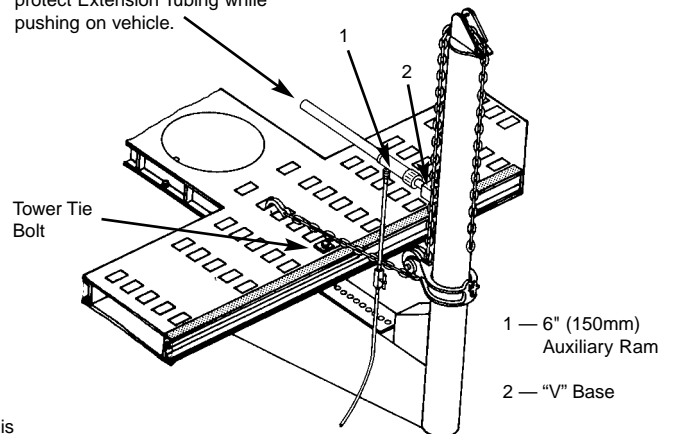

Figure 17
2. Auxiliary ram is used to push from tower to vehicle. (See Figure 17.) Tower will be forced down in this situation unless tower tie bolt is installed.